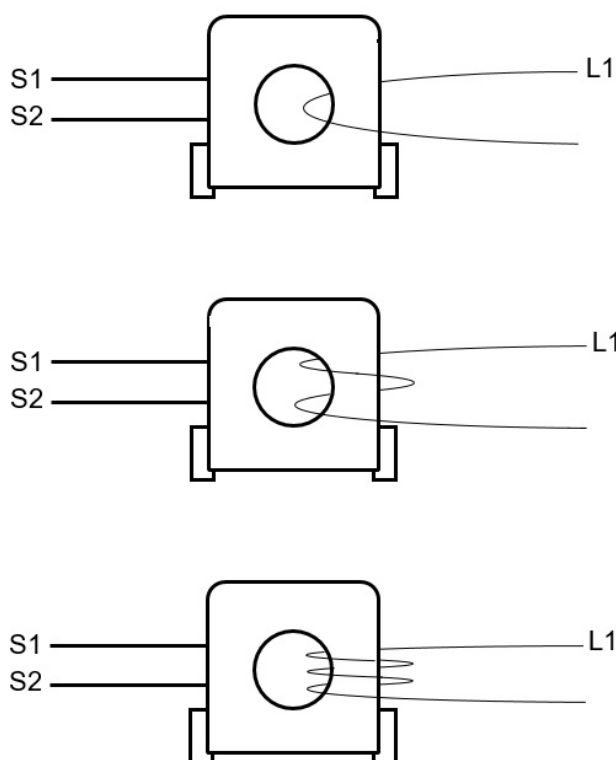

Fig. 8: Current transformer INT185 - example 1, 2 and 3 winding turns
3. Guide the cable of phase L1 of the motor through the opening of the current transformer by the number of winding turns determined in item 2 (⇒ Fig. 8) . The insertion direction does not need to be taken into account.